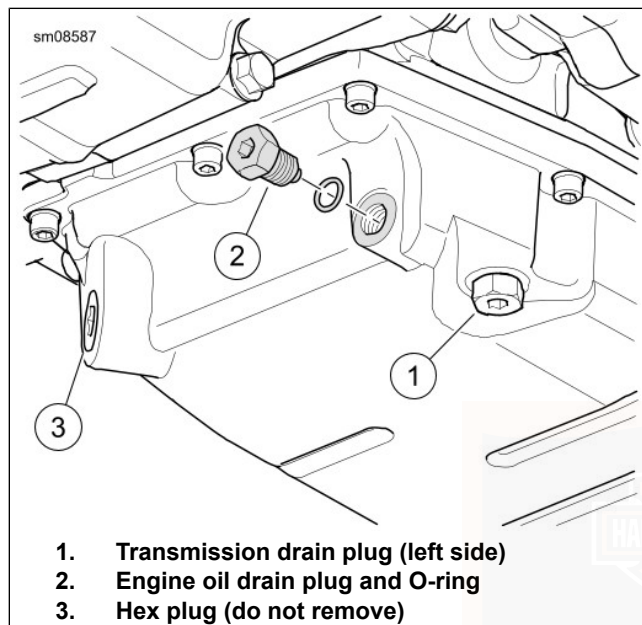

Figure 66. Oil Pan
3. See Figure 66. Remove the oil drain plug (2) and O-ring. Allow oil to drain completely.